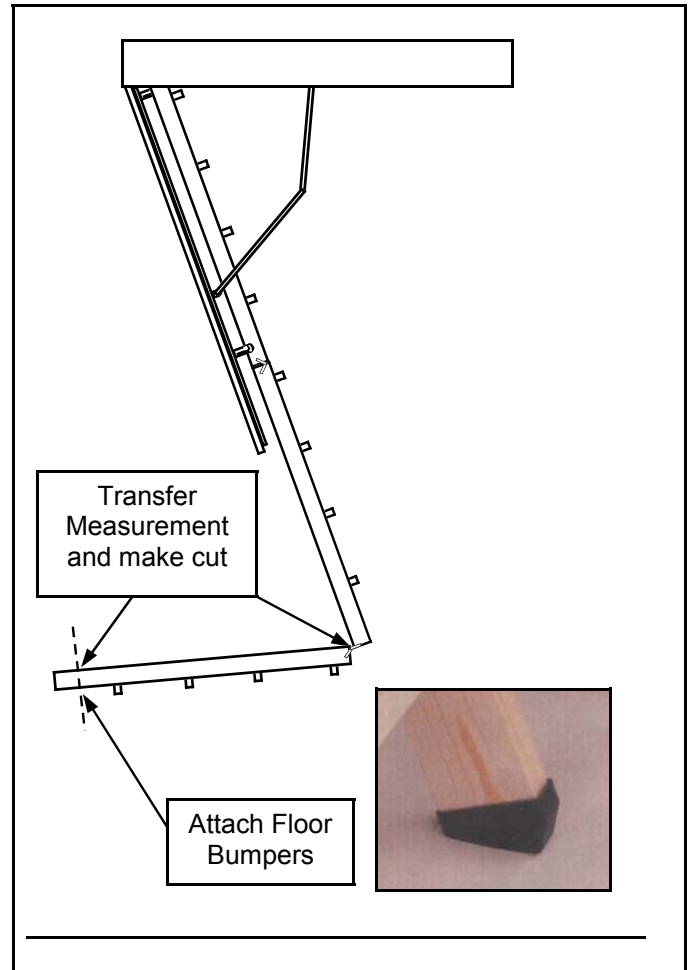

Figure 11
3. Cut section at 90 degree angle and attach floor bumpers using screws provided. Screw from bottom. Figure 11. (**Note: Measure and cut each leg separately since there may be a variation in the floor level.**)